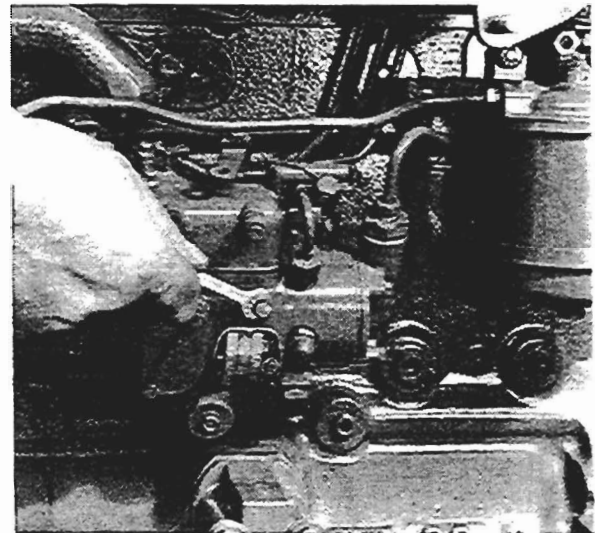

Fig. P4
5. Loosen the vent screw in the hydraulic head lock screw on the side of the fuel injection pump body (see fig. P4). Loosen vent screw on top of main fuel filter (where fitted).